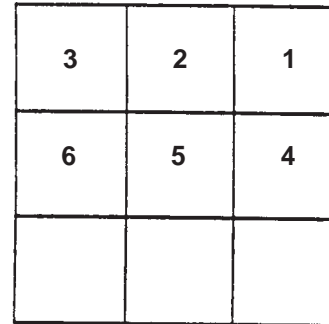

Figure 2
**To clean an area of carpet, follow this procedure:** (See figure 2)